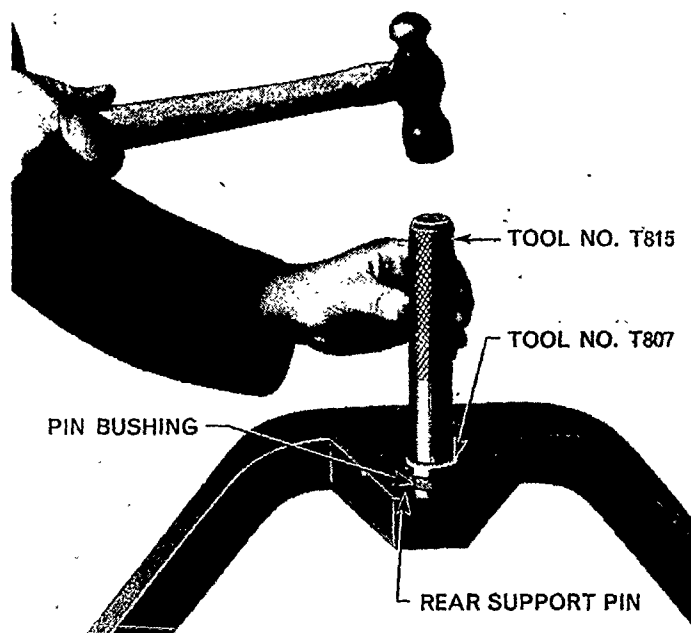

Figure 17
10. Install the hub retaining washer on the wheel spindle, locating the tab with the keyway in the spindle, Figure 17.
1. Inspect the centre axle assembly support pin bushes for excessive wear or scoring. If necessary to renew the rear bushing use Tool Nos. T815 and T807 to remove and install the bushing, Figure 17. To renew the front bushing drift out the grease retaining plug. Remove the bushing from the centre axle assembly, make sure that the bushing bore is not damaged. Install the new bushing using Tool No. 630-S step adaptor. Install the bushing grease retaining plug.